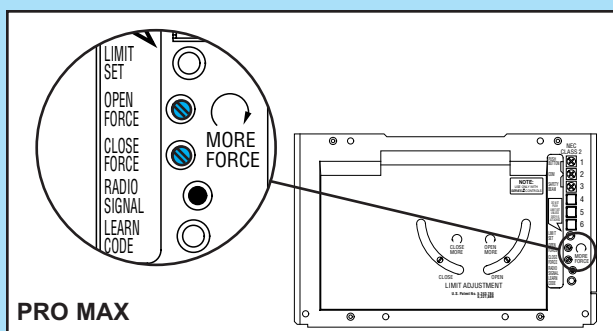

Fig. 7-1
1. Adjust the "OPEN" Force (Fig. 7-1).
2. Adjust the "CLOSE FORCE" (Fig. 7-1). Use wall control to run door to the fully OPEN position before starting "CLOSE FORCE" adjustment.